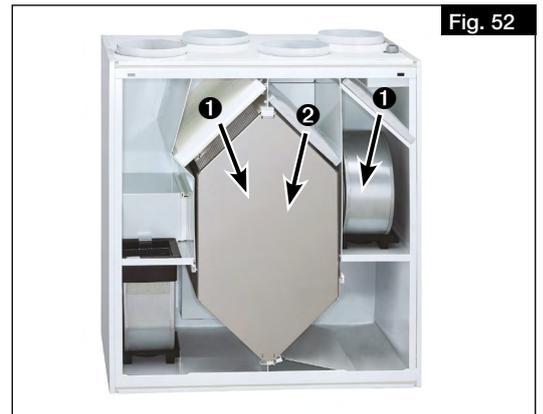

Fig. 52
2. Pull intake air filter **1** and extract air filter **2** to the front and replace (see Fig. 52).